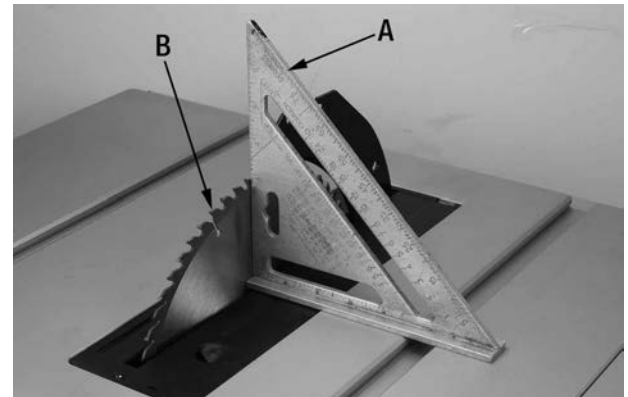

FIGURE 16
1. Place a combination square (A) Fig.16 on the table and up against the flat portion of the blade (B).